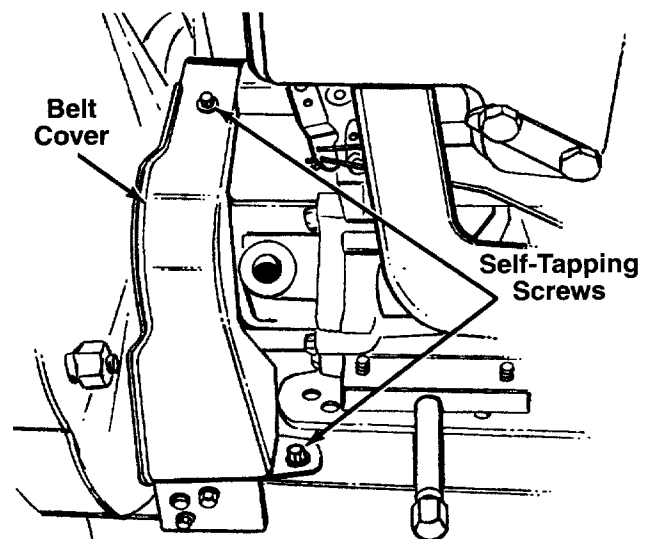

Figure 14
3. Remove the plastic belt cover on the front of the engine by removing the two self-tapping screws. See Figure 14.
7. Remove the two self-tapping screws that secure the plastic belt cover. See Figure 14. Lift off belt cover.